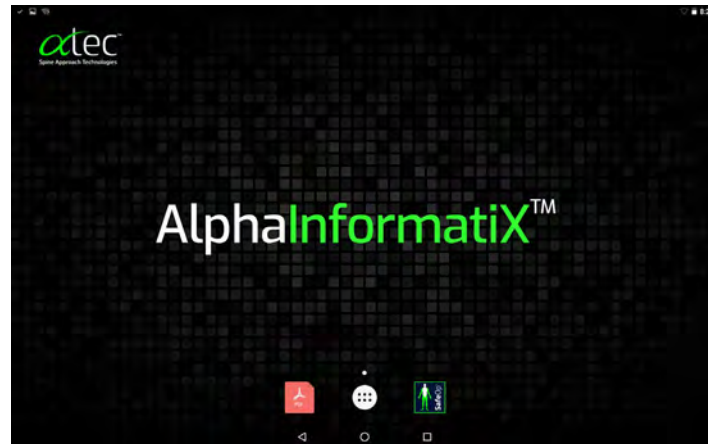

Figure 7: AIX Tablet Desktop
1. Turn on the AIX Tablet and a screen should appear as displayed in Figure 7. The SafeOp System manual may also be displayed on the desktop as a PDF icon.